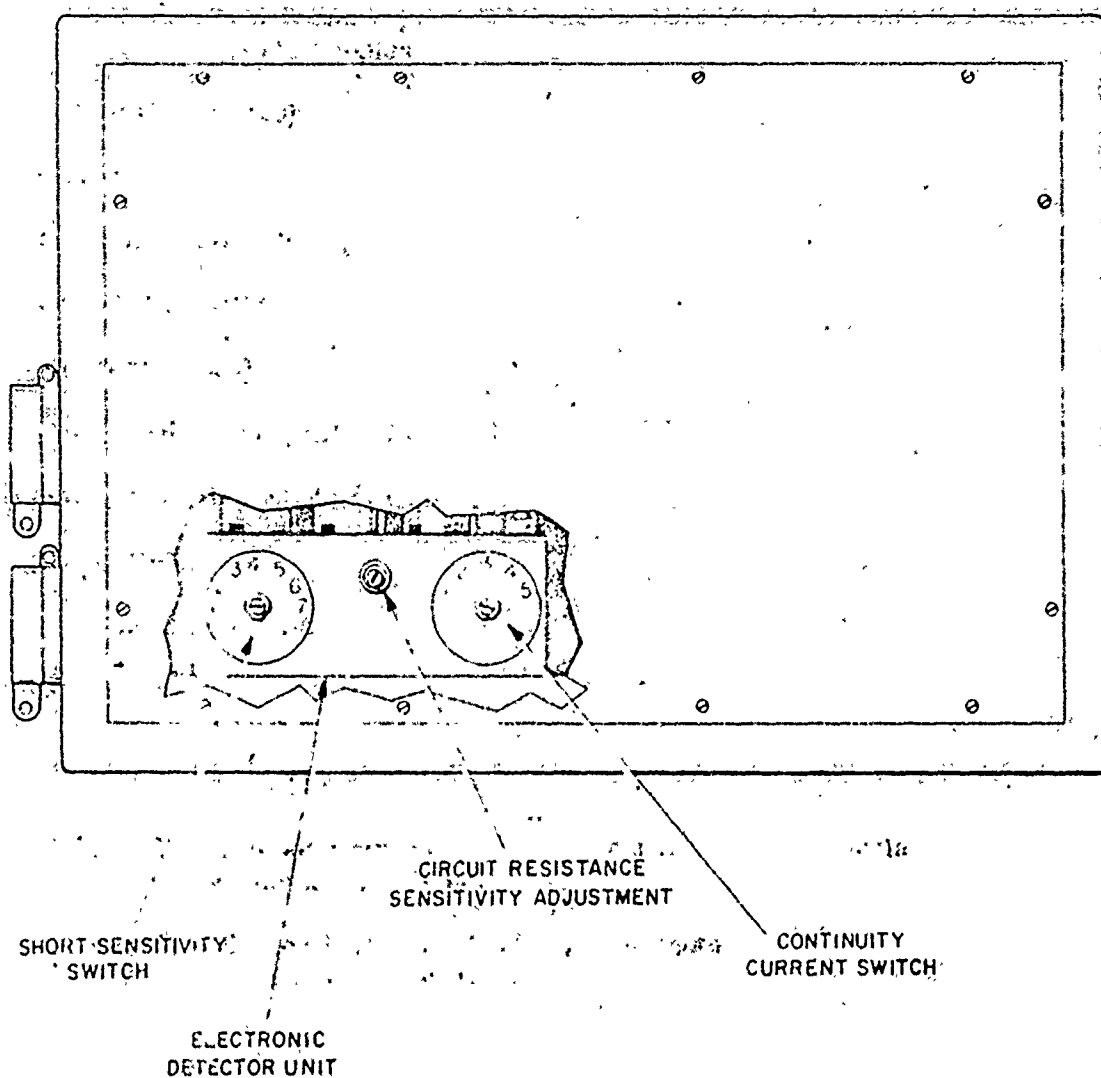

Figure 3. CIRCUIT ANALYZER. REAR VIEW
4.2.1 Remove the back panel of the circuit analyzer exposing the electronic detector unit, Figure 3. Set the short sensitivity switch to line up with number 7 (200 megohms) on the dial, and the continuity current switch to line up with number 7 (2 amps) on the dial.
4.2.3 Rotate circuit resistance sensitivity adjustment, shown in Figure 3, clockwise to the full stop position.